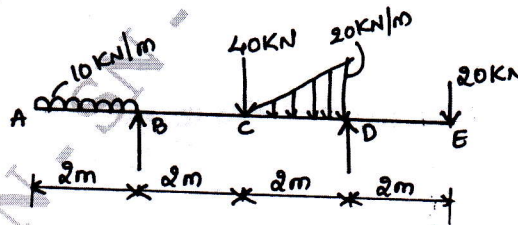

Fig Q3(b)
- b. Draw the shear force and bending moment diagram for a overhanging beam shown in Fig Q3(b) and locate the point of contra-flexure.